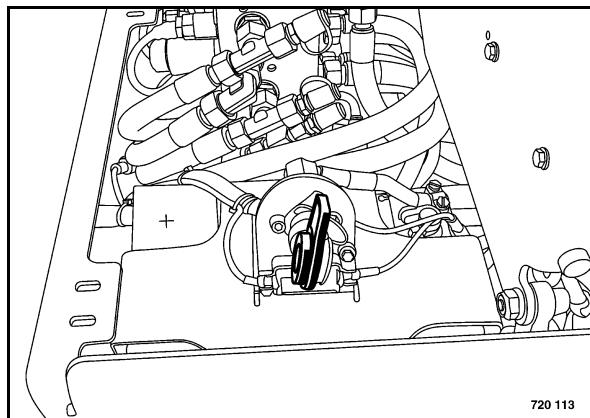

Fig. 56
- Switch off and pull out the main battery switch (Fig. 56).